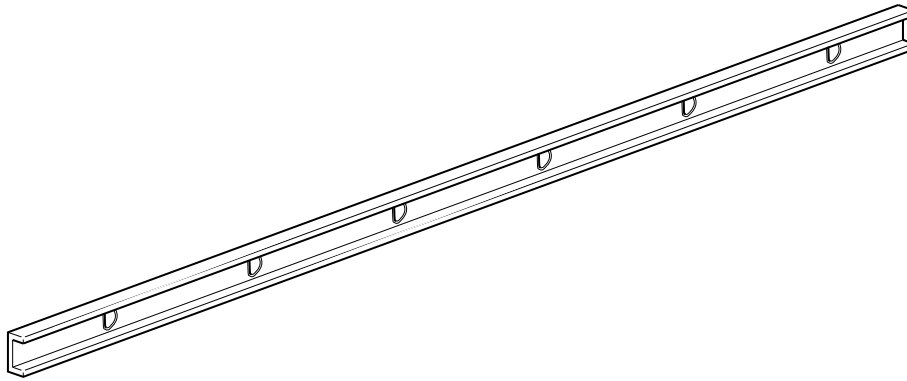

Fig. 7
(e) Fig. 7 shows one of the side sections of the ladder.
(i) State a **suitable specific material** for the ladder section shown in Fig. 7.
- (ii) Describe, in detail, how the ladder section shown in Fig. 7 would be manufactured as a batch of 1000.